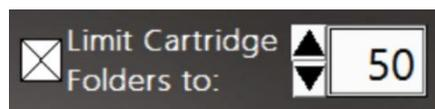

Figure 31: Limit Cartridge Data Folders controls
**Note:** The raw data (.bin) files are each approximately 1.25 GB. When the **Limit Cartridge Folders** to checkbox is selected (Figure 31), the software retains only the newest *N* folders (where *N* is the number typed in the field next to **Limit Cartridge Folders to**). All older cartridge data folders are deleted.